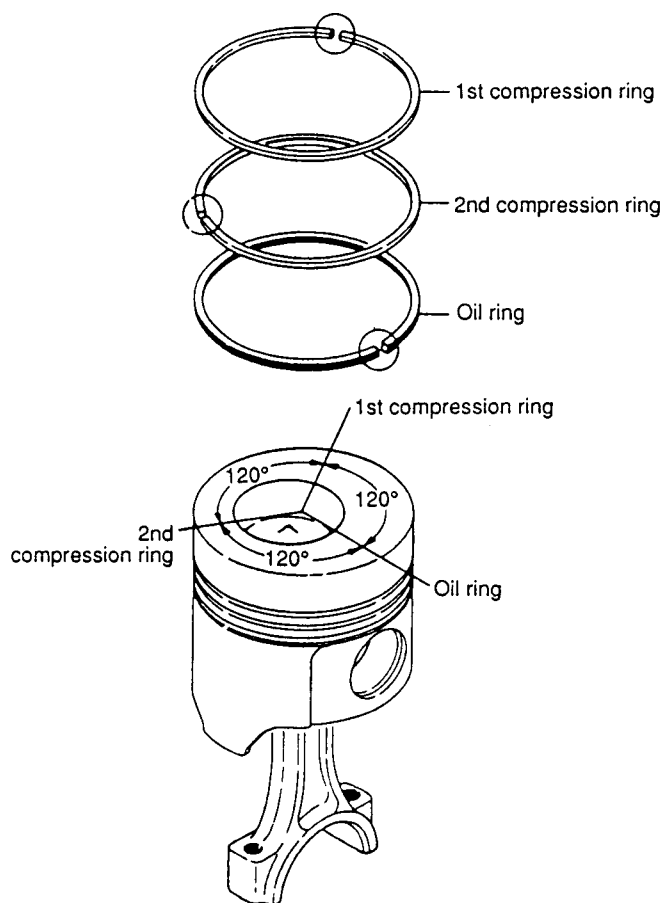

Figure 5-16. Piston Ring Set Installation
1. Install new ring set into piston ring grooves. Mount rings with end gaps staggered 120° apart (see Figure 5-16). Make sure that rings move smoothly in grooves.